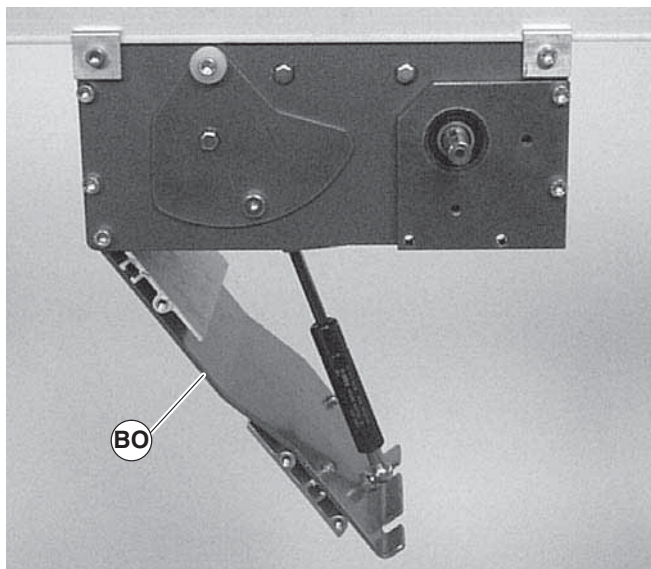

Figure 34
9. Carefully close the drive module tension door (Figure 34, item BO). See WARNING.